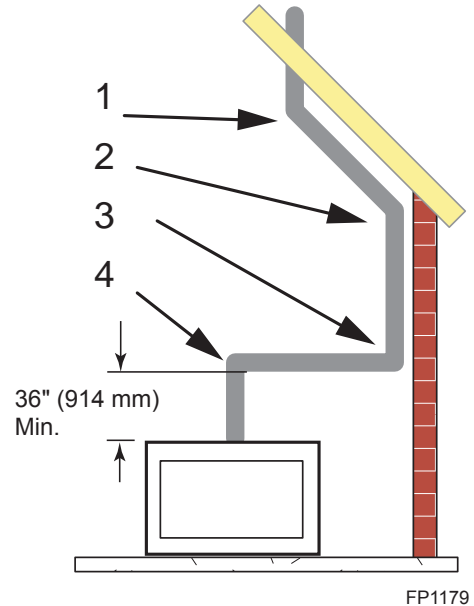

Figure 25 - Maximum Elbow Usage
- Two sets of 45°elbows offsets may be used within the vertical sections. From 0 to a maximum of 8' (2.5 m) of vent pipe can be used between elbows. Figure 25
- The maximum angular variation allowed in the system is 270°. Figure 25
NOTE: Pay special attention to these installation instructions for required clearances (air space) to combustibles when passing through ceilings, walls, roofs, enclosures, attic rafters, etc. Do not pack air spaces with insulation. Also note maximum vertical rise of the venting system and any maximum horizontal offset limitations. Offsets must fall within the parameters shown in Figures 25 and 26.